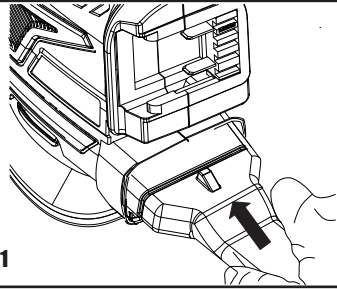

Fig. D1
4. DUST EXTRACTION OUTLET (SEE FIG. D1, D2)